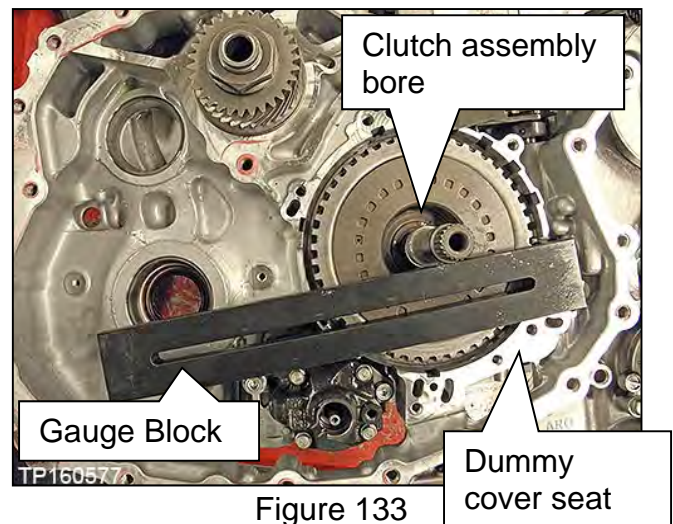

Figure 133
- a. Position the Gauge Block over the clutch assembly bore on the surface where the dummy cover seats (Figure 133).